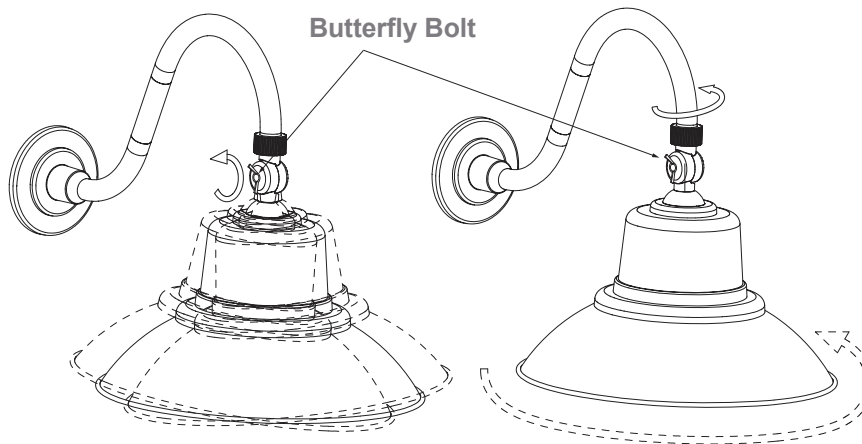

Figure 3
6. Following the arrow illustration to rotate swivel and butterfly bolt to adjust fixture angle which you want. (Figure 3)